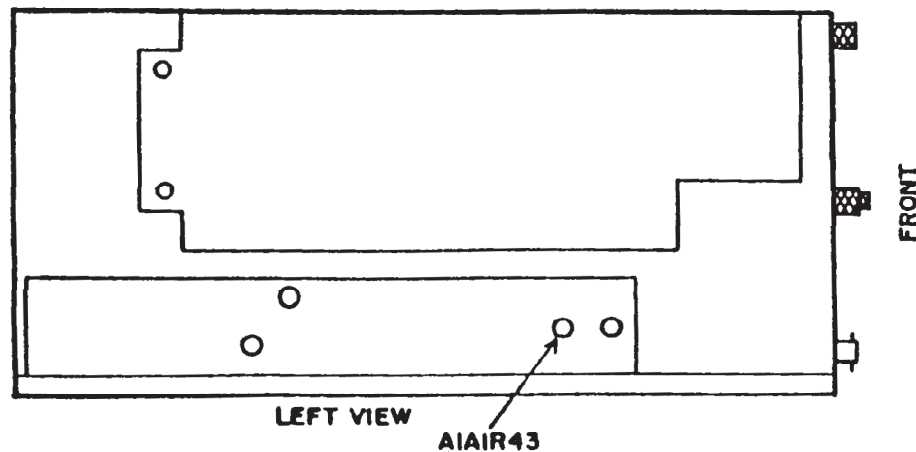

Figure 3. Test Instrument - Left View.
(29) Set **HI LVL - μ VX100-NORM** switch to **NORM** and **BFO-RF LEVEL** control to **-80 dBm**. Measuring receiver will indicate between -74 and -86 dB.
b. Adjustments. Adjust **BFO-RF LEVEL** control to **-100 dBm**. Adjust A1A1R43 (fig. 3) until measuring receiver indicates -60 dB.